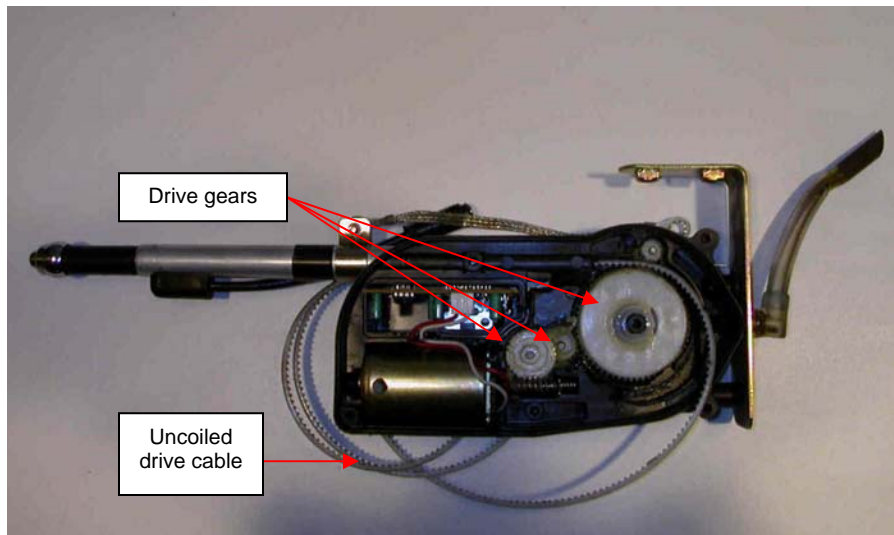

Fig. 7
7. Remove the drive-cable spool and plastic cover, revealing the toothed cable and drive gears (Fig. 7). There are no electrical connections in this area. In my case, the problem turned out to be electrical vs. mechanical, so I merely re-coiled the drive cable in the spool and slipped the pieces back into place.